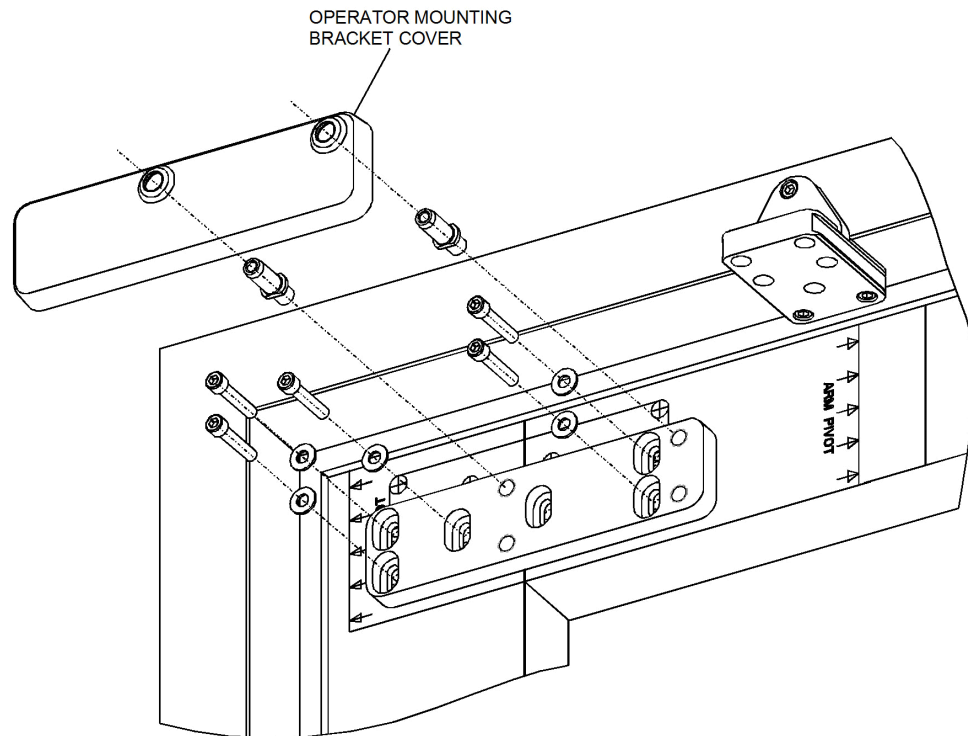

Figure 14
1. Refer to Figure 14, and **INSTALL** the operator mounting bracket cover over the operator mounting bracket.